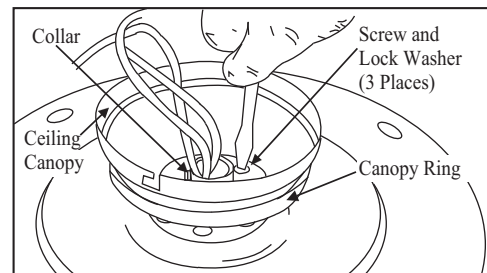

Figure 10
5. Route the wires exiting the top of the fan motor through the canopy ring (make sure the slot openings are on top). then proceed to place the ceiling canopy over the collar at the top of the motor. (Figure 10)
6. Align the mounting holes with the holes in the motor and fasten using the screws and lock washers removed in step 4. (Fig. 10)